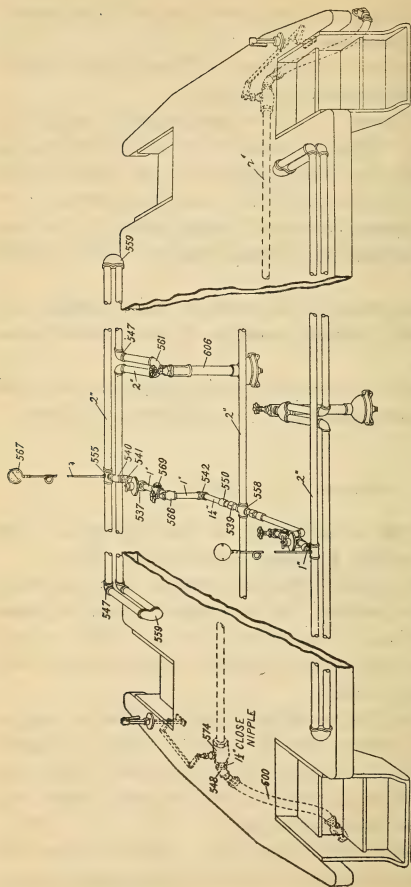

FIG. 29. GOLD'S IMPROVED DIRECT SYSTEM FOR HEATING PASSENGER CARS.
Gold's Direct Steam System—(Improved): A two-inch train line is located under the car, at the middle of it a cross (558) Figure 29, is placed, from which fitting branches lead to either side. There should be a pitch from the cross to the valves at either end. Each side of the car is controlled by a separate admission valve and temperature regulator. By referring to the illustration it will be seen that the heating surface consists of two courses of two-inch pipe along the truss-planks, expansion loops being provided as shown. The two-inch return bends (559) used for these loops are tapped to spread. The upper line has to be in line with the top of the truss-plank, so only the lower pipe pitches downward because of the special tapping. The lower radiator pipes run to loops which end in the special bends (560), and from the side of these bends a one and a half drip pipe is carried down through the floor to the automatic tee traps. All the pipes which lead to traps have to pitch downward so the water of condensation may always readily pass to the